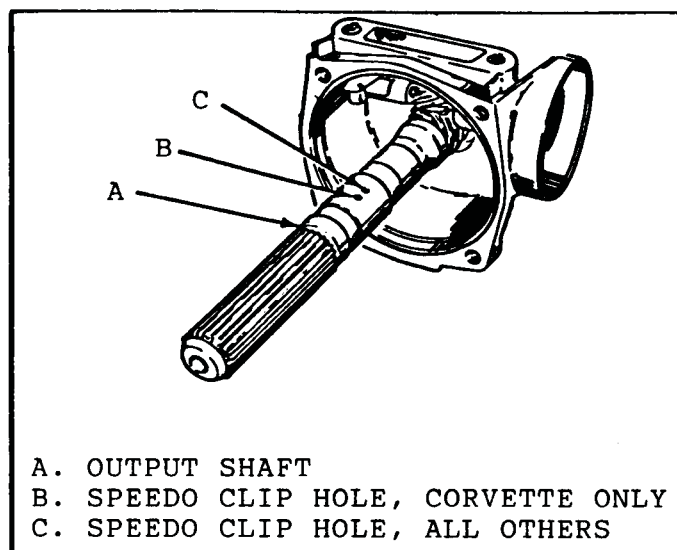

Figure 123
2. If the output shaft has two speedometer locating holes, use the hole nearest the splines for Corvette only, all others use the front hole (Figure 123).